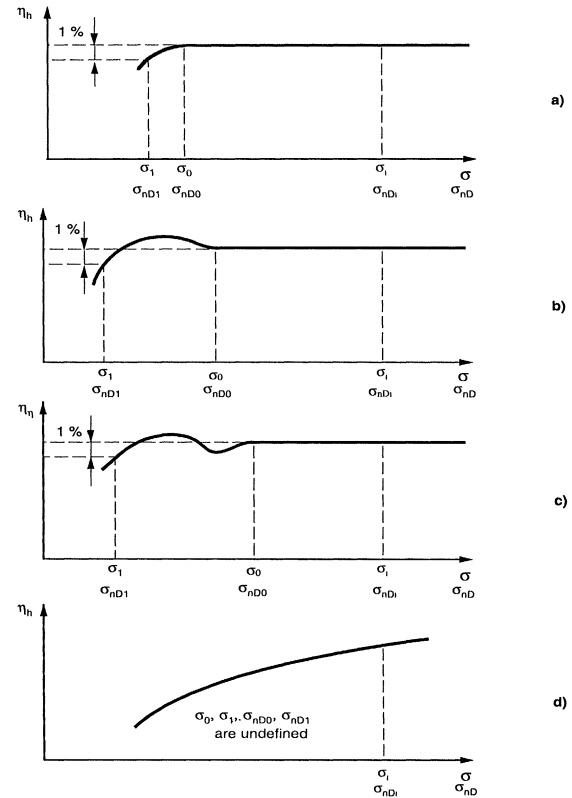

Figure 4 – Definition of  $\sigma_0$  and  $\sigma_1$
Fig. 4. Main types of cavitation in Francis turbines: (1) leading edge cavitation, (2) travelling bubble cavitation, (3) draft tube swirl and (4) inter-blade vortex cavitation. Pictures 1 and 4 courtesy of Franz et al. [14]. Picture 2 courtesy of Grindoz [19].